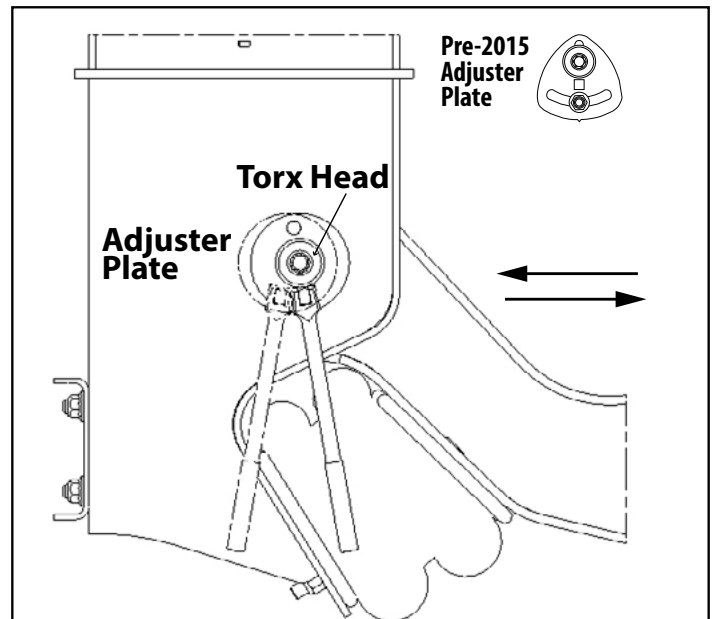

Figure 9.
1. Loosen the pivot nut enough for the beam to move within the hanger (Figure 9).
2. Locate the adjuster plate at the pivot connection. Insert a 1/2"-shank breaker bar into the square hole of the adjuster plate. Push on the breaker bar to move the beam forward or backward until the axle reaches alignment measurements (Figure 9).